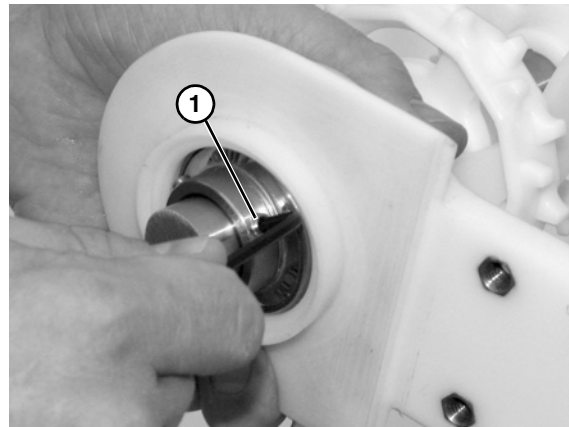

Figure 30
6. Loosen set screws (Figure 30, item 1).